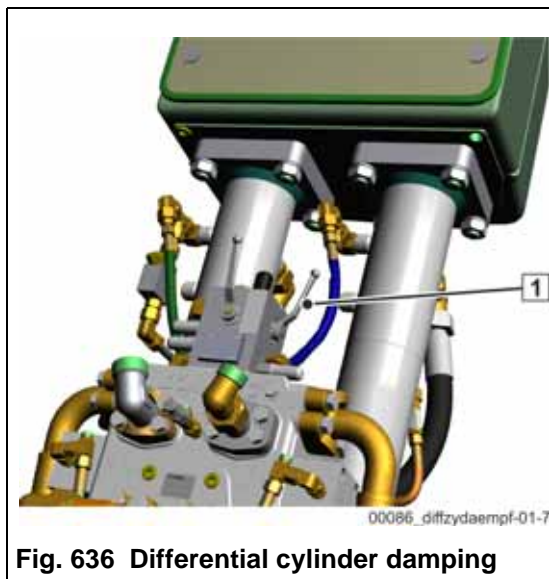

Fig. 636 Differential cylinder damping
The second ball valve (1) (**Fig. 636**) provides extra damping for the differential cylinders in addition to the MPS (Mini Pause Switch).